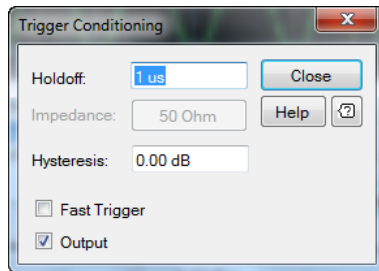

Figure 2-40 Trigger Conditioning dialog
- 4 Select **Conditioning...** on the Trigger Setup dialog to display the Trigger Conditioning dialog as shown in Figure 2-40.